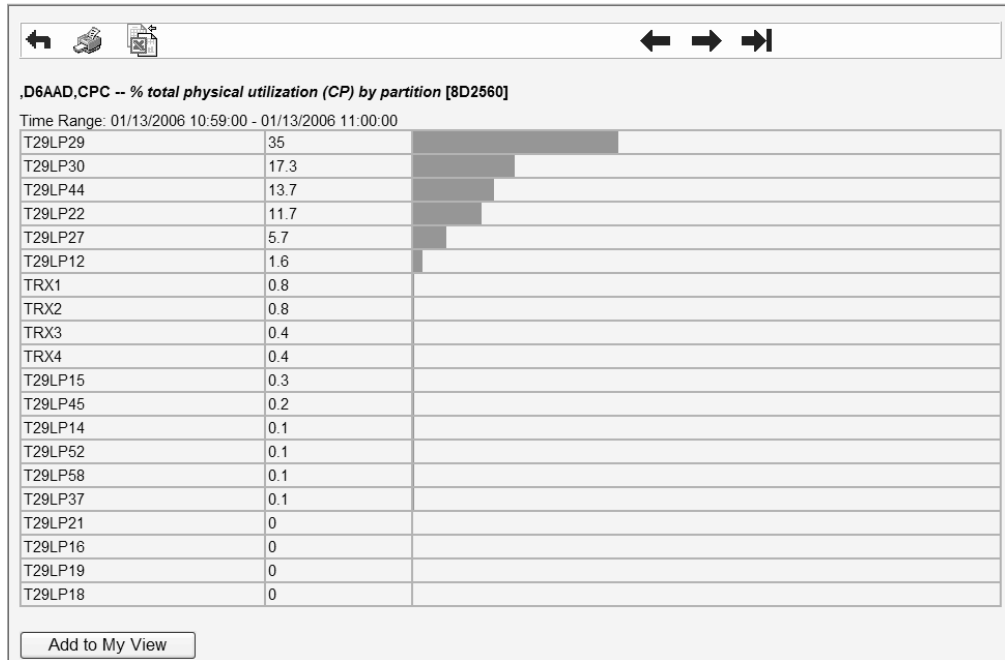

Figure 151. Total utilization of the processors by partitions
If you want to know the total utilization of the physical standard processors by the partitions in the CPC, click on *% total physical utilization (CP) by partition*. Clicking on this metric opens another view presenting the desired results, in our example, a list of partitions, showing the percentage of utilization for each (Figure 151 on page 256).